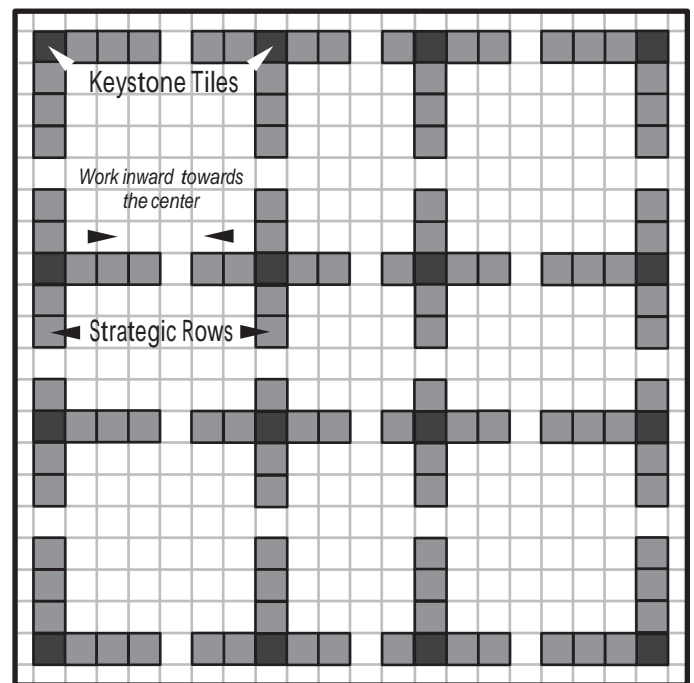

Fig. 5
- Install strategic rows of tiles beginning at opposite ends of the keystone tiles working inwards towards the center (**Fig. 5**).
Begin installing the tiles in the empty space located between the 6 tile increments. These tiles represent the compression tiles and will need to be compressed into a space smaller than the tile (Fig. 5).
INSTALL COMPRESSION TILES **Fig. 5**